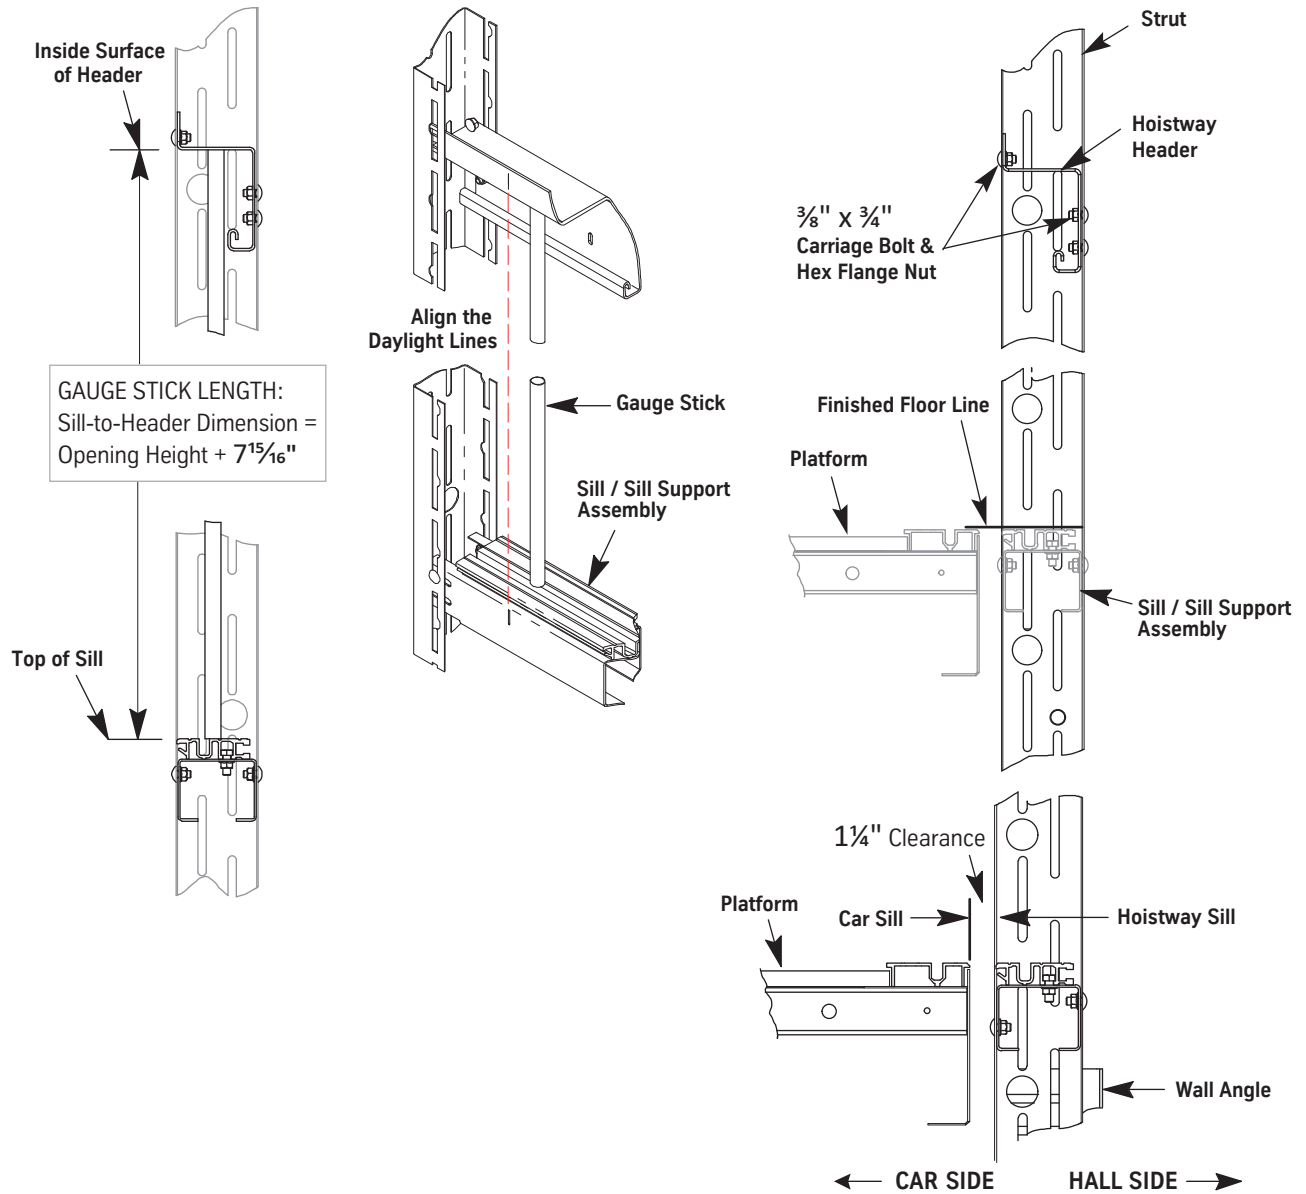

Figure 55- Install and Adjust the Hoistway Header
2. Place the gauge sticks on the sill of the landing below, one at each end of the sill. See Figure 55 on page 7-65 for all steps on this page.